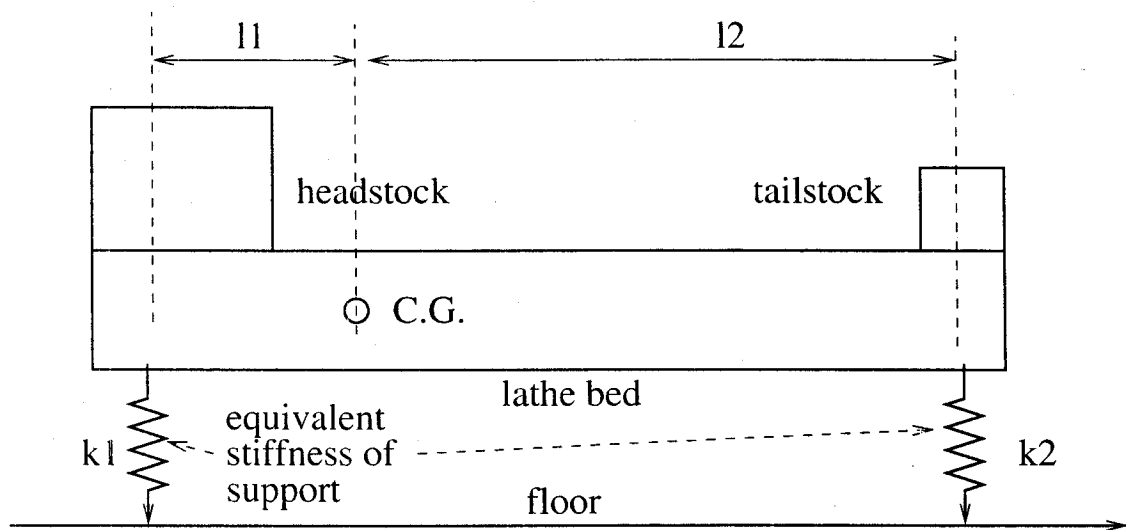

FIGURE 8
8(a) A two degree of freedom model for a lathe and its support is depicted in Figure 8. Explain the different coordinate systems which can be used and the corresponding equations describing the vibration of the system. Include a brief discussion on the various types of coupling that are possible. Determine expressions for natural frequencies and mode shapes. (10)